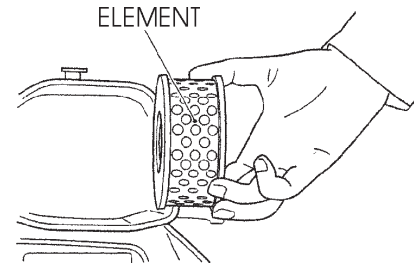

Figure 11. Air Cleaner Element
- Remove the air cleaner element (Figure 11) and inspect it for signs of wear or dirt. If air cleaner element is dirty, clean or replace element.